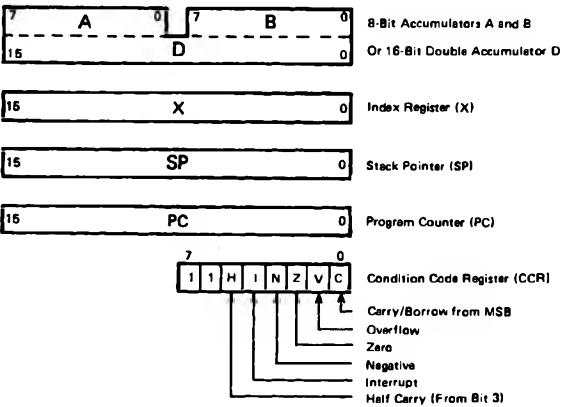

Figure 15 MPU Programming Model
- MPU Programming Model (Figure 15)
The programming model for the HD6803 is shown in Figure 15. The double (D) accumulator is physically the same as the Accumulator A concatenated with the Accumulator B so that any operation using accumulator D will destroy information in A and B.